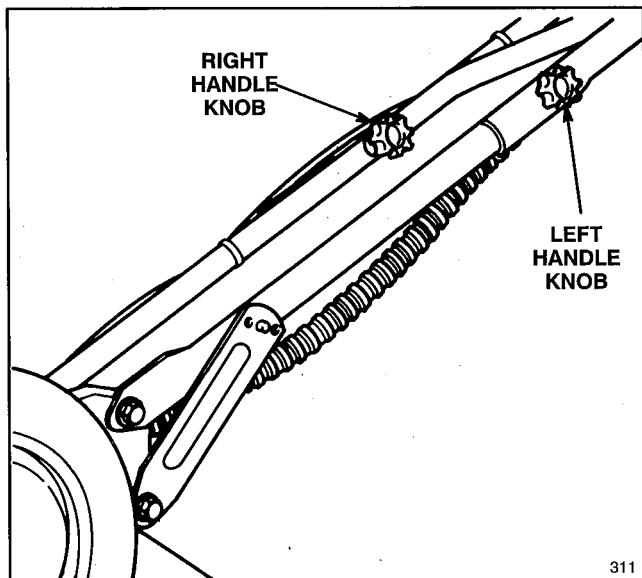
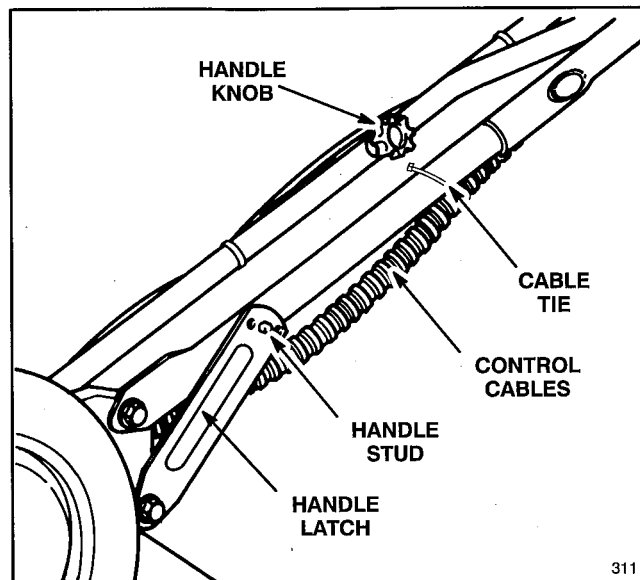

Figure 1
Figure 2
2. The left handle knob is shipped from the factory on the outside of the handle (Fig. 1). Remove the left knob and bolt. Reinstall knob and bolt on inside of handle (Fig. 2). Both handle knobs should be positioned on the inside of the handles. Tighten handle knobs.
3. Move handle latches slightly outward so they will not be in the way when pivoting the handle backward into the operating position (Fig. 2).
4. Pivot handle backward. Move handle latches inward while snapping handle stud into center hole of handle latch (Fig. 2). If a handle latch does not fit tightly against the handle tube, remove latch from handle stud, bend the latch inward, and reattach to handle stud. Repeat as necessary to ensure a tight fit between latch and handle.
Note: if handle height is not satisfactory, adjust by placing handle stud (Fig. 2) into a different hole. Tighten handle knobs.
5. Ensure control cables (Fig. 2) are to the rear and inside of handles.